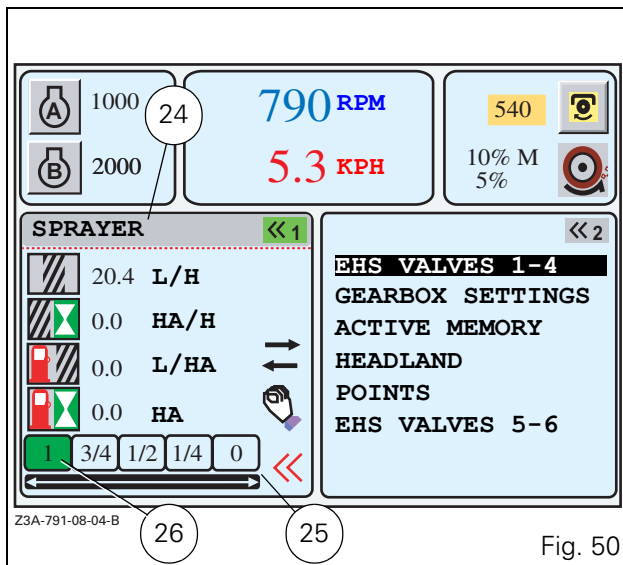
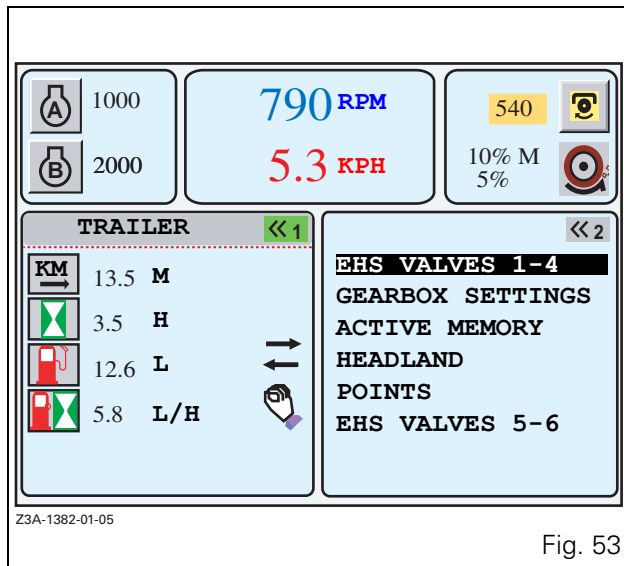

Fig. 50
Fig. 53
- Validate by pressing the encoder or the key <<1. The window (Fig. 50) is displayed.
Field parameters: description (Fig. 50)
Allows field or transport parameters to be selected. When the window (Fig. 50) is open and active, the window (Fig. 53) is displayed.
NOTE: When the window (Fig. 51) is open, press the key **ESC**. The window (Fig. 50) is displayed again if it was open previously.
To select the correct icon, press the key <<6 when the window (Fig. 50) is open and the implement memory window is active.
When the total width of the implement is working, the first icon must be displayed in reverse video (26 Fig. 50). Then as the tractor moves forwards, the implement width must be reduced. For this purpose, press the key <<6 to select the corresponding fraction.
Transport parameters: description (Fig. 53)
- Allows field or transport parameters to be selected. When the window (Fig. 53) is open and active, the window (Fig. 50) is displayed.